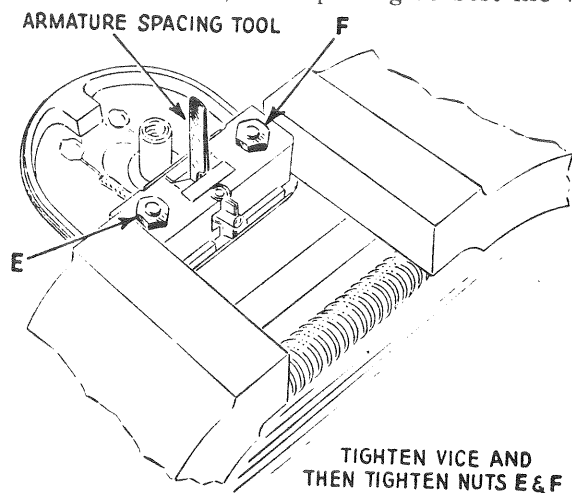

Figure 7—Magnetic pick-up in vise
- Place the new rubber pivot supports in their proper place. This may be either tubing or strips. Reassemble the pole pieces and coil, and new rubber damping block in place with armature spacing tool in place as shown in Figure 7. Now place in a small vise and clamp the pole pieces together, as shown in Figure 7, with the spacing tool in place. Tighten nuts E and F, remove pick-up from vise and remove spacing tool.
(3) REPLACING PICK-UP COIL